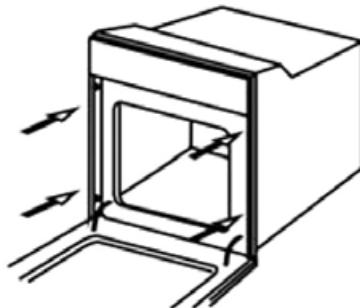

Fig. 6
5. Attach the unit to the cabinet by screwing four screws in the holes in the front wall. The holes can be seen after opening of the door (see Fig. 6).